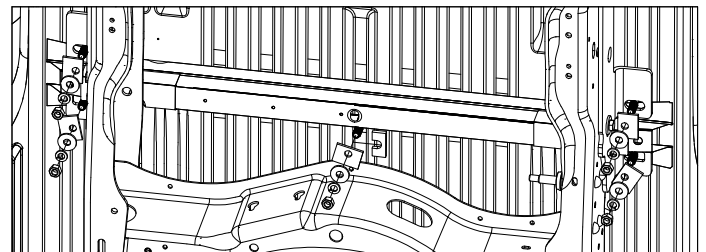

Figure C2: View looking into truck bed from rear of truck
2. **Install the rear mounting rail, cont.** Under the bed install an offset square washer, 1/2" flat washers, 1/2" lock washers and 1/2" finish nuts on each of the carriage bolts, see figure C2. Place the u-shaped spacers, see note below. Hand tighten each nut.